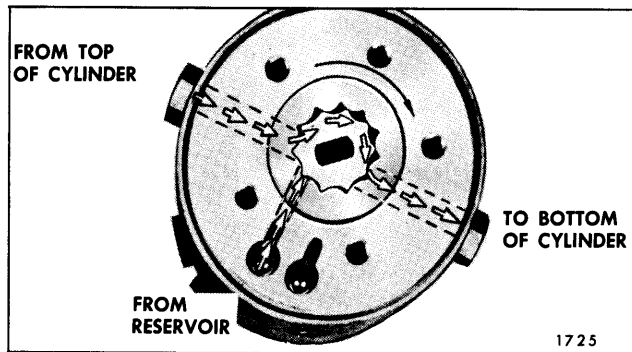

Fig. 13-58—Operation Of Pump To Raise Top
1. Raising the Top. When the red motor lead is energized the motor drive shaft turns the rotors clockwise as indicated by the large arrow in Figure 13-58. The action of the pump rotors forces the fluid under pressure to the bottom of each cylinder forcing the piston upward. This action causes the fluid above the piston in each cylinder to be forced into the pump, which recirculates the fluid to the bottom of the cylinders. The additional fluid required to fill the cylinder due to piston rod displacement is drawn from the reservoir.